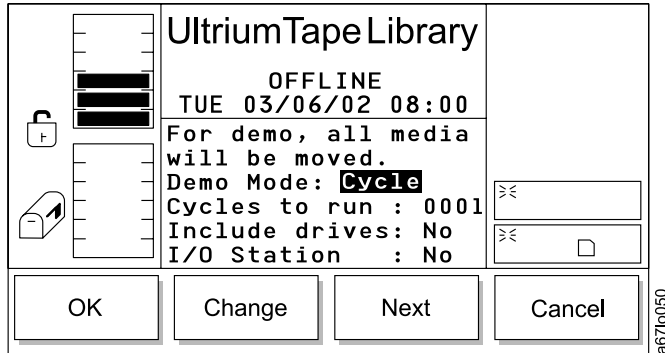

Figure 181. Demo Dialog
- If **Demo** is selected, the Demo Dialog displays (see Figure 181 on page 144).
- If **Next** is selected, the next field in the list becomes the active field. After you reach the end of the field list, the active field reverts to the first field in the list (see Figure 181).